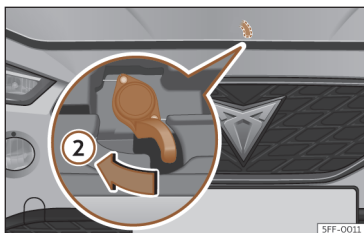

Fig. 210 Lever under the bonnet.
- To lift the bonnet, press towards the left on the lever located under the bonnet, in the centre»» **Fig. 210** ②. The arrester hooks are released.